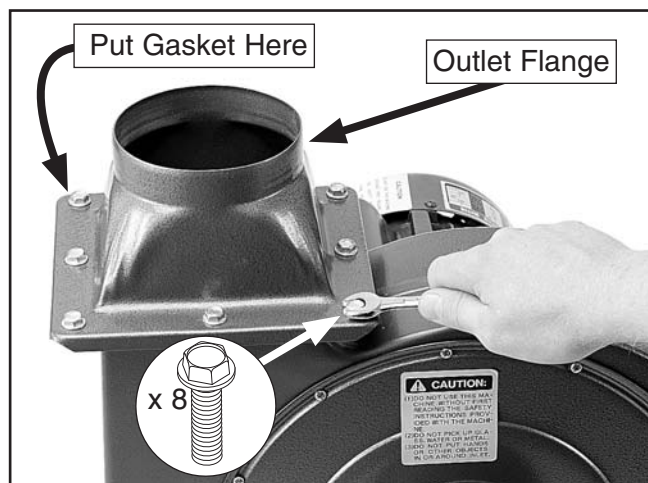

Figure 25. Mounting outlet flange to collector body.
3. Insert the rubber gasket between the collector and outlet flange, and secure the flange with (8) $\frac{5}{16}$ "-18 x $\frac{1}{2}$ " flange bolts, as shown in **Figure 25**.